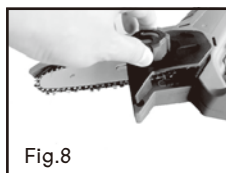

Fig.8
5. Insert the protrusion on the sprocket cover to the chain saw body, and then close the cover so that the bolt and pins on the chain saw body meet their counterparts on the cover (Fig.8).